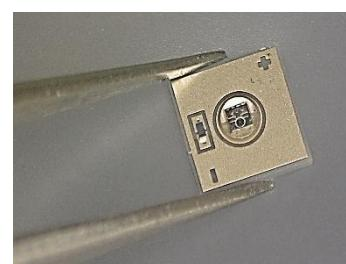

Figure 2. incorrect handling (left) and correct handling(right) of UV Package
- Elphoton recommends holding the LED from the sidewalls (see Figure 2.)